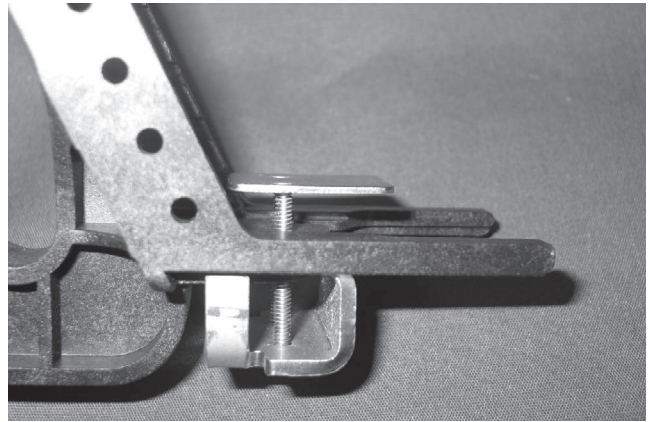

Figure 7: FOSC 450 B6 with Old Style Tray Bracket
1. Slide basket wedge between black plastic tray bracket. The holes in the wedge should align with the hole in the tray holder bracket. Insert mounting plate through the holes in the tray bracket and wedge. (Figure 7)
2. Place basket open side up and fixture and secure into place. Place nuts and secure completely down. (Figure 7)